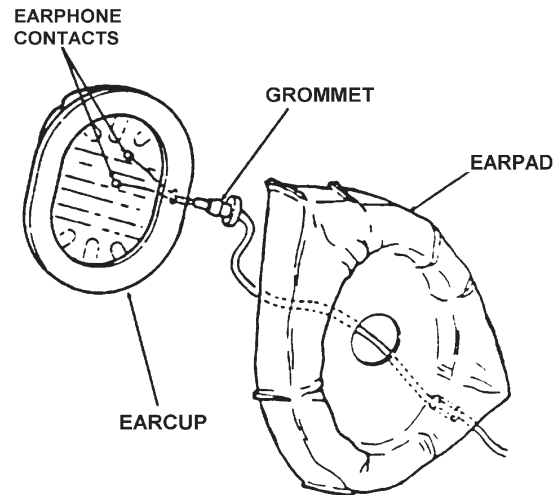

Figure 3-27. Earphone Grommet and Contacts
- b. Referring to Figure 3-27, insert the earphone contacts and small grommets into the holes of the left-hand and right-hand earcups. Secure the grommets.